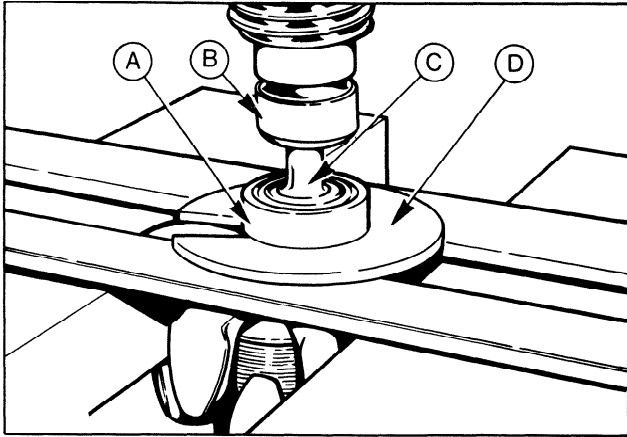

FIG. 8 Rear Bearing Removal
8. Support rear bearing with a large washer, incorporating a cut out to accommodate the rotor shaft, and press bearing from shaft (Fig. 8).